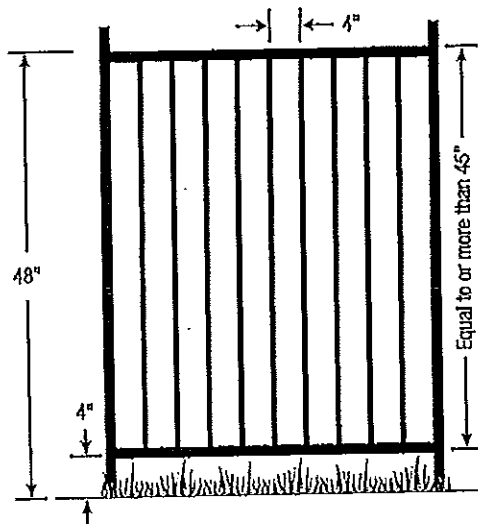

Figure 1
1. The top of the barrier should be at least 48 inches above the surface measured on the side of the barrier which faces away from the swimming pool (figure 1).
2. The maximum vertical clearance between the surface and the bottom of the barrier should be 4 inches measured on the side of the barrier which faces away from the swimming pool. In the case of a non-solid surface, grass or pebbles, the distance should be reduced to 2 inches, and 1 inch for removable mesh fences (figures 1 and 10).